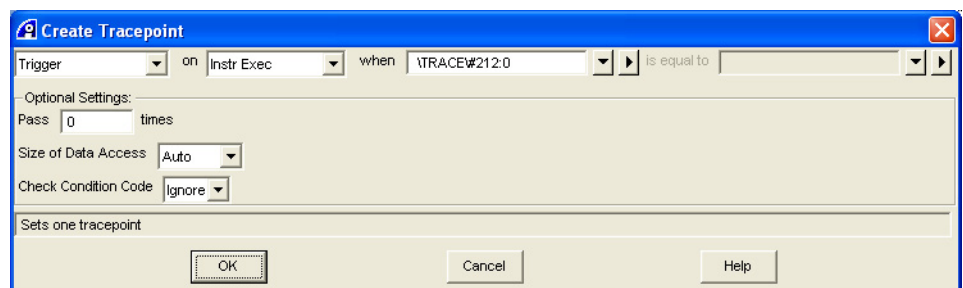

Figure 7-7 Create Tracepoint dialog box
2. Select **Create Tracepoint...** from the context menu to display the Create Tracepoint dialog box. Figure 7-7 shows an example: